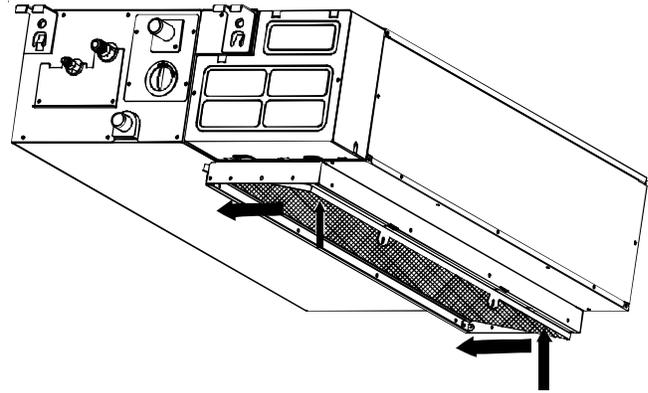

Figure 11
3. When installing the filter mesh, place the filter mesh in the flange and push up to set it in place, as shown by the arrows in the following Figure 11.